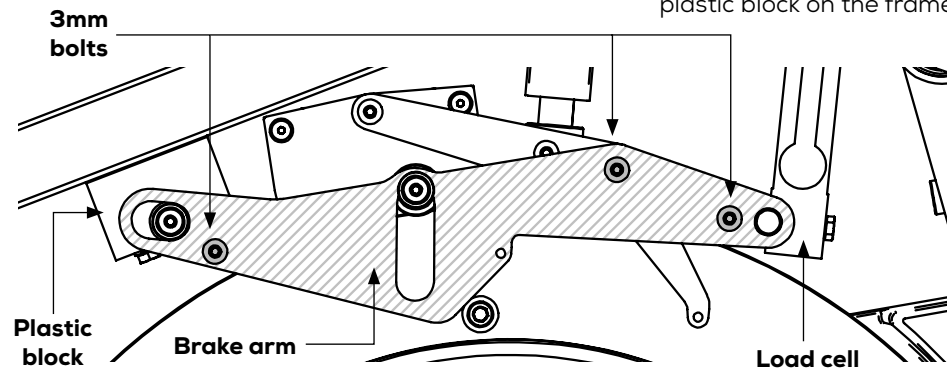

Figure 27
- 3) Loosen the three 3mm bolts. See Figure 27.